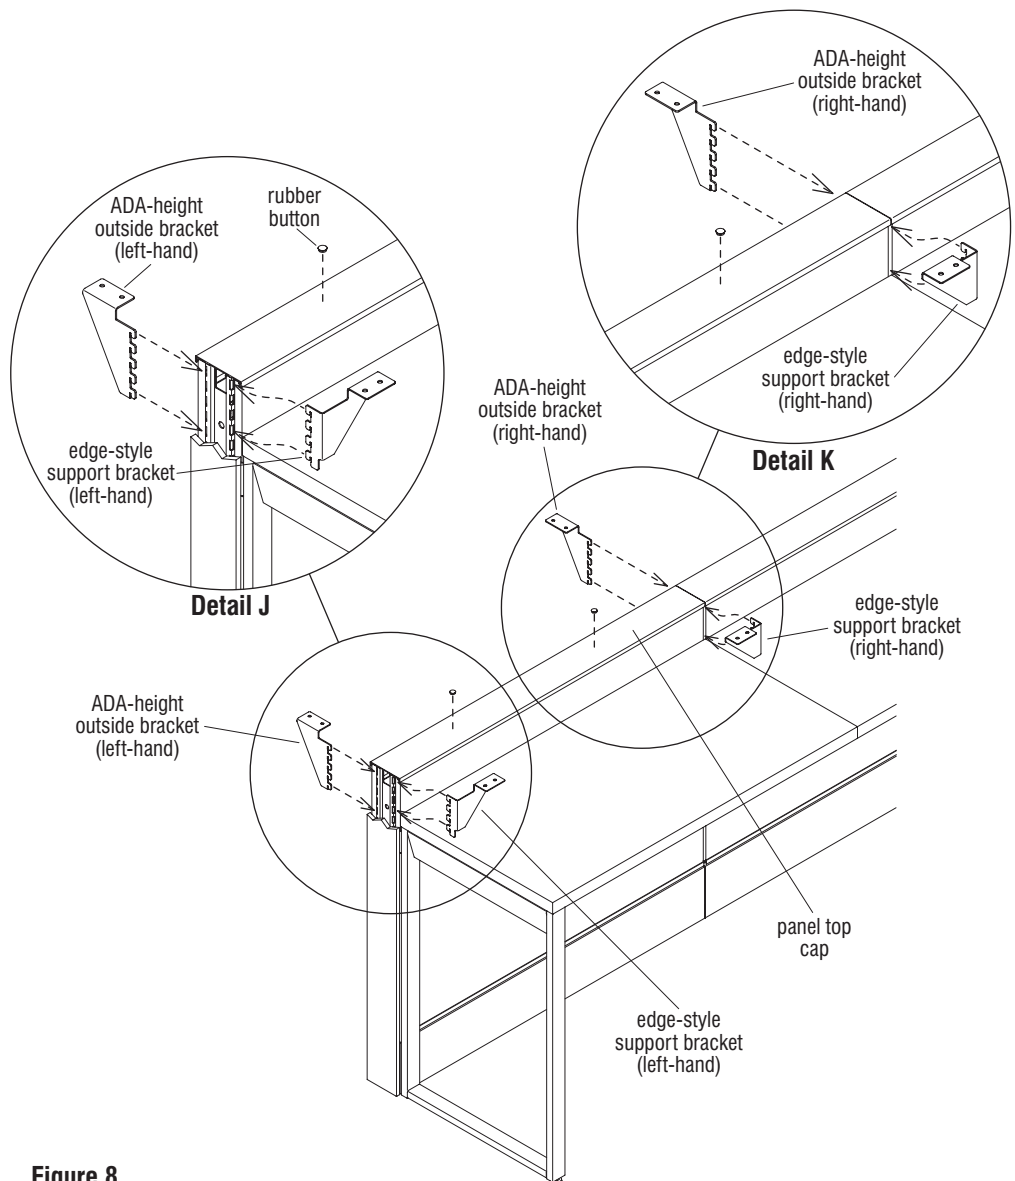

Figure 8
1. Ensure that the Unite Panel top cap is installed prior to attaching bracket pairs and transaction countertop. Install two self-stick rubber buttons to the top of the top cap as illustrated. Spacing of buttons is approximate, and buttons prevent the countertop from incidental contact with the top cap (Figure 8).
Note: An attachment bracket "pair" consists of an edge-style support bracket installed to the "user side" (inside), as well as an ADA-height outside bracket installed to the "aisle side" of the Unite Panel (Figure 8).
horizontal top of all installed brackets should be about 1/8" above the top of the panel top cap. Check bracket for full engagement by pulling straight back firmly in a horizontal motion (Figure 8 & Details J & K).